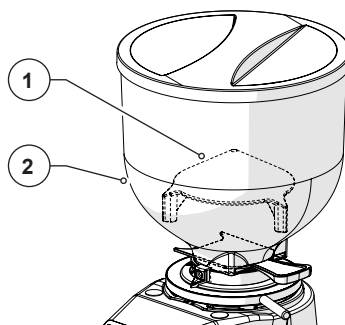

Fig. 3
- **Anti-intrusion mushroom on the coffee supply hopper (Fig. 3)**